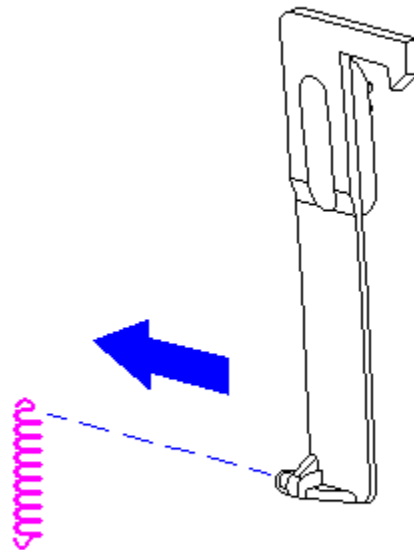

Figure 5-74. Removing the Display Latch Spring from the Latch
6. Remove the display latch spring from the latch (Figure 5-74).